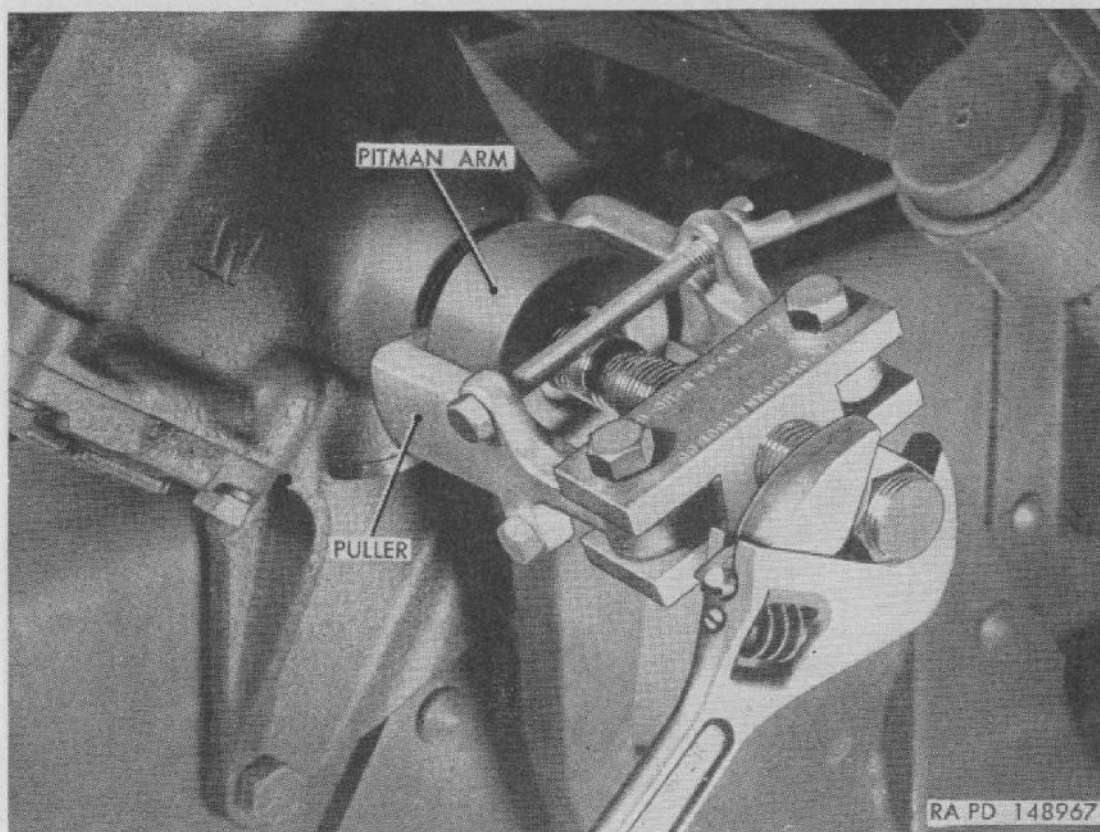

Figure 151. Removing pitman arm using puller 41-P-2952.
b. PITMAN ARM REMOVAL. Pitman arm can be removed more readily if drag link is disconnected at steering arm at front axle; then disconnect drag link at pitman arm after arm is removed. Remove nut and lock washer which retains arm to pitman shaft. With puller 41-P-2952, remove arm from shaft (fig. 151). Remove drag link end from arm.